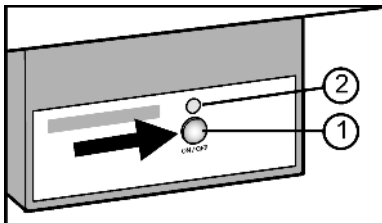

Fig. 14
- ▶ Press the On/Off button Fig. 14 (1) so that the LED Fig. 14 (2) shines.